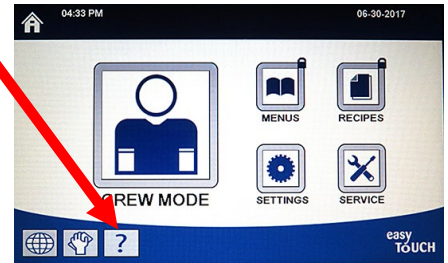

Figure 37
- Press the **?** button (see Figure 37).